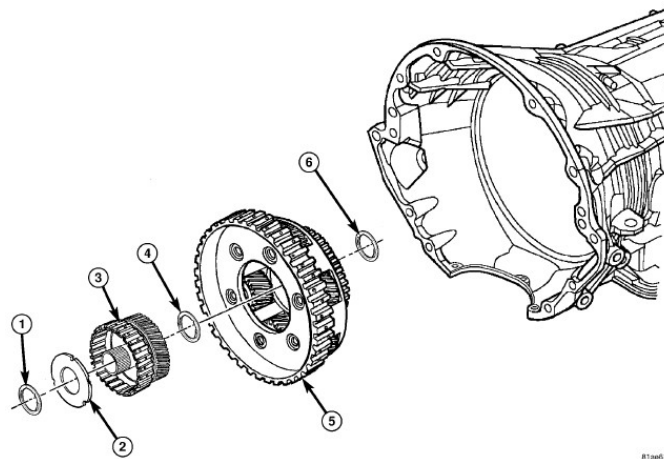

Fig. 13
24. Remove and **DISCARD** the rear selective thrust plate/shim from the 4C clutch hub/reaction sun gear assembly Fig. 13.
25. Remove and **DISCARD** the 4C clutch hub reaction sun gear assembly Fig. 13.